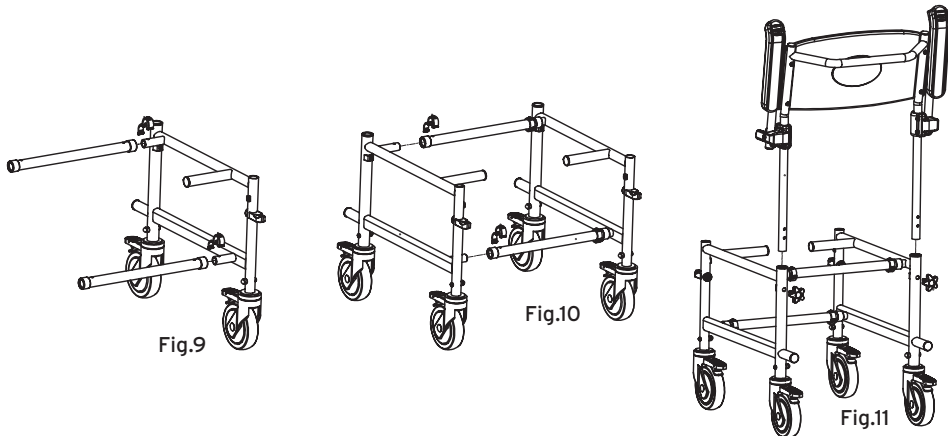

Fig.8
- Insert the footrests from the side and rotate them to the front until fastening into the holder (Fig. 8);